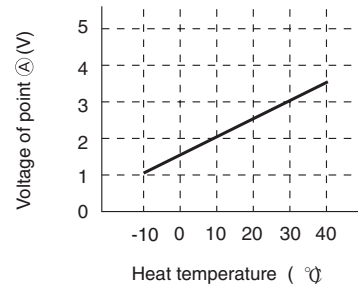

Fig. 9-2
- (1) Preheating
- (2) Low-temperature defrosts at cooling dehumidification operation time.
- (3) Not working of reversing valve or detection of opening of heat exchange thermistor is controlled.
According to heat exchange temperature, the voltage of point (A) becomes as it is shown in Fig. 9-2.